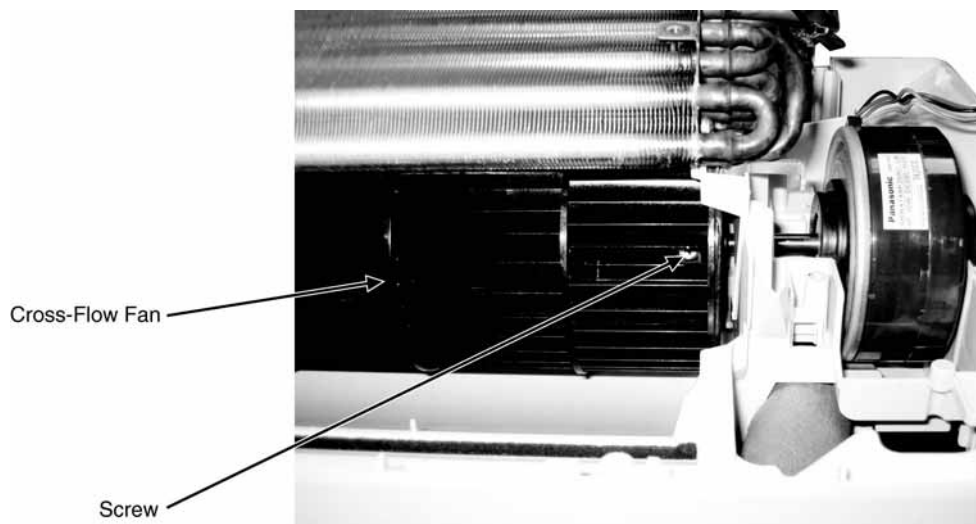

Fig. 13
8. Loosen the screw between the Cross-Flow Fan and Fan Motor. (Fig.13)